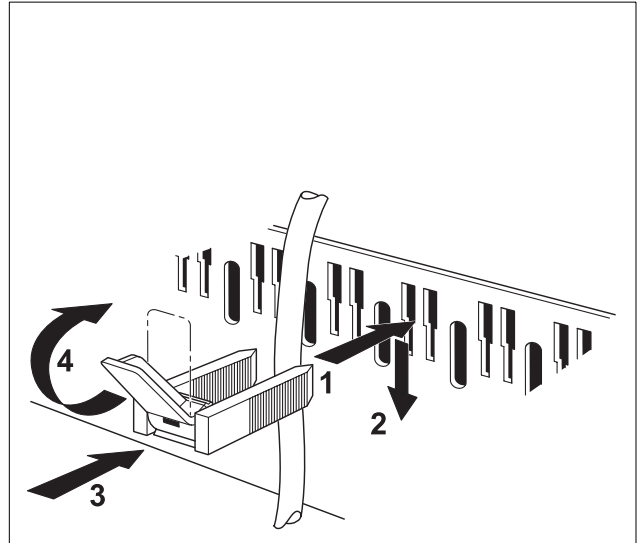

Fig. 15 White strain reliefs
- Install electrical wiring using the plastic clips and secure wiring by latching in the lever of the plastic tabs (Fig. 15, **Item. 1**).